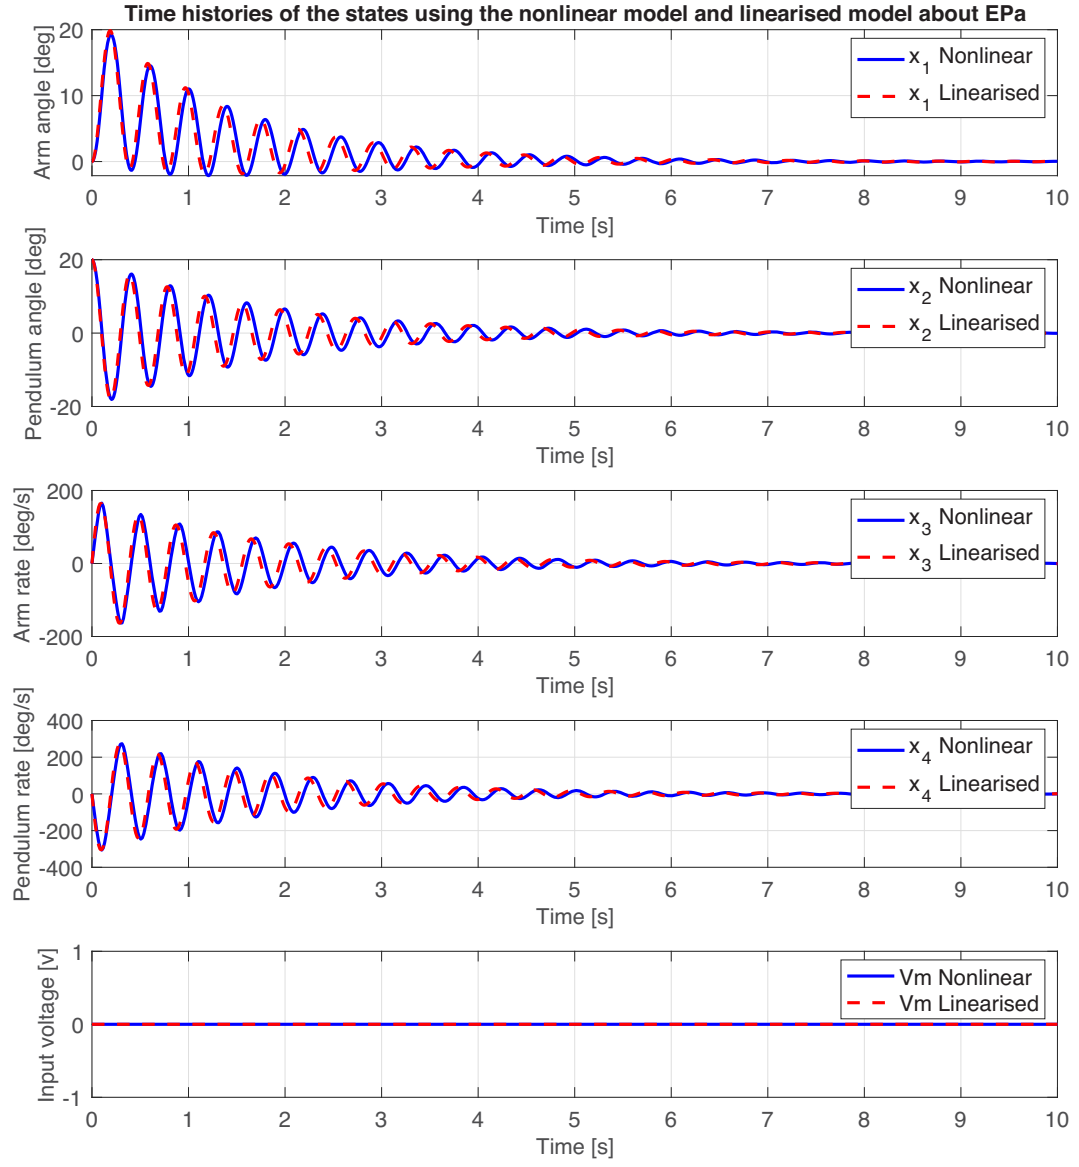

Figure 3: Time histories of the states and input voltage.
3. Plots the time histories of the states from both the nonlinear system and linear approximation against each other. Plot the states $x_1(t)$ and its linear approximation $x_{1a}(t) + \bar{x}_{1a}$ on top of each other in one graph, then plot $x_2(t)$ and $x_{2a}(t) + \bar{x}_{2a}$ together on another graph, and so on. Sample results for the initial conditions $x_1(0) = 0$ deg, $x_2(0) = 20$ deg, $x_3(0) = 0$ deg/s and $x_4(0) = 0$ deg/s, $V_m = 0$ v are shown in Figure 3.